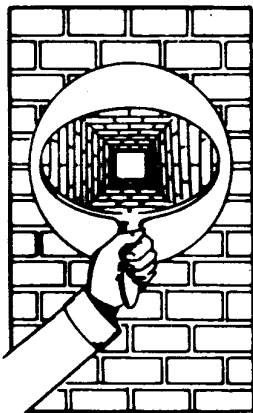

Figure B-1
- g. The inside of a chimney must be free from mortar, brick or tin that may partially restrict the flue area of the chimney and thus retard the flow of gases up the stack, in turn reducing the draft. Such restrictions may generally be located by lowering a weight at the end of a rope down the flue. The descent of the weight will be interrupted by any such restriction. Another method is to use a mirror as shown in Figure B-1, (below).
- h. A chimney should be of uniform cross sectional area throughout its length. To check this condition use mirror as illustrated in Figure B-1, (below).